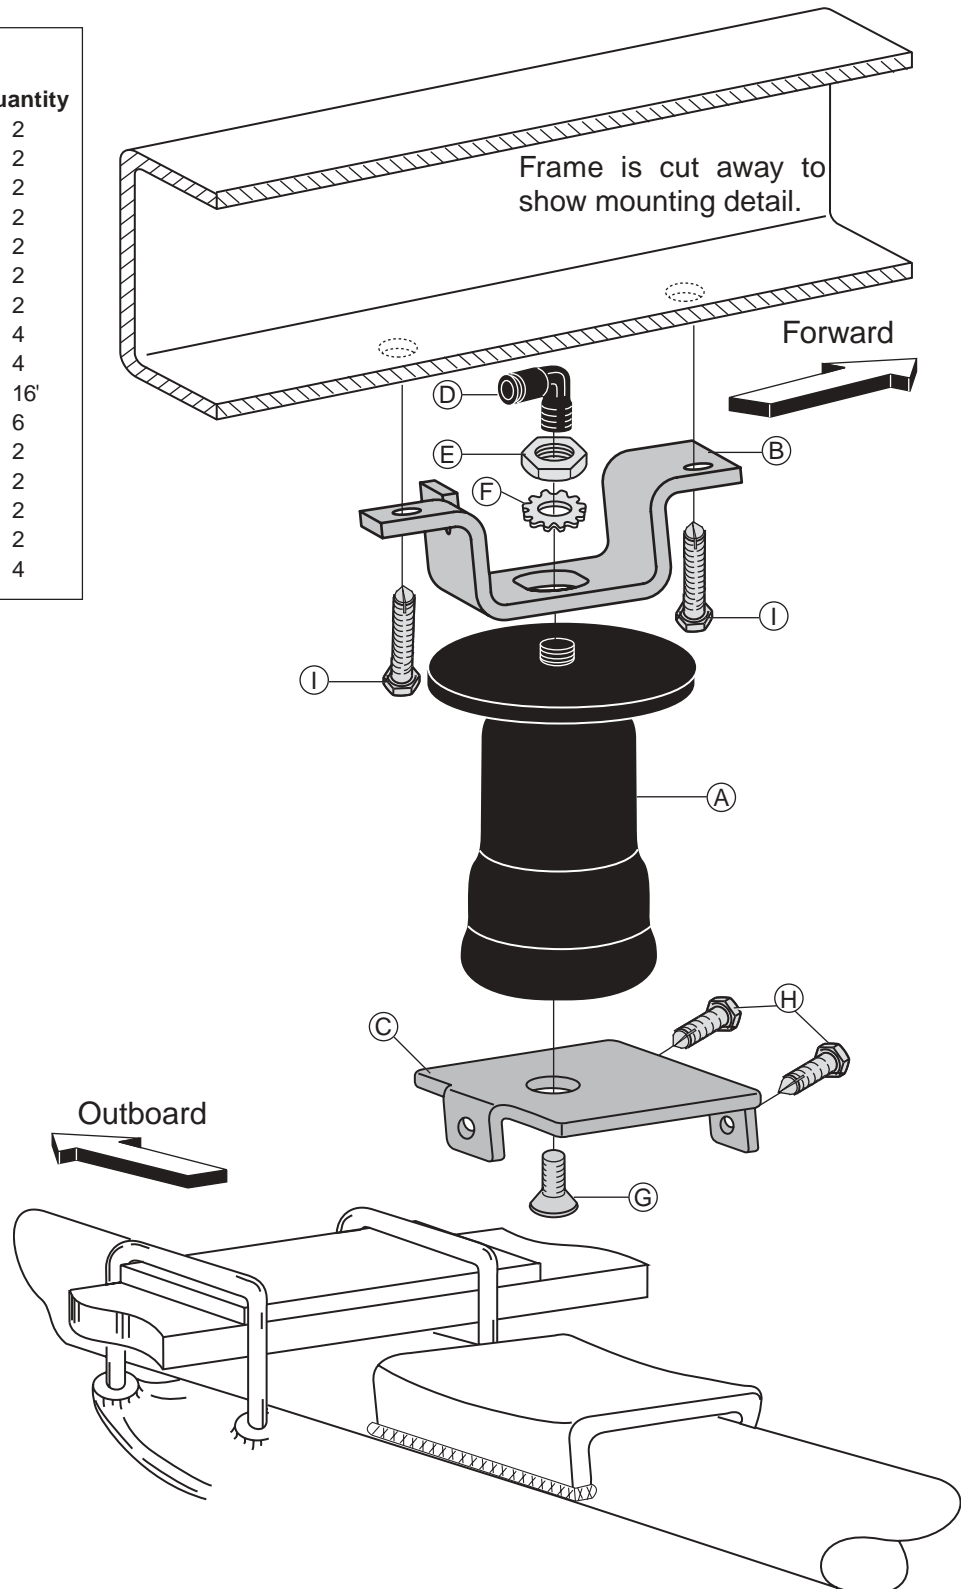

Figure 1
1. Install the elbow fitting (D) to the top of the air spring (A) finger tight plus 1 1/2 turns. Be careful to only tighten on the metal hex nut only (Figure 1).
2. Set the upper bracket (B) over the elbow fitting on the air spring and onto the threaded post.
3. Install 3/4" star washer (F) and nylon nut (E) onto the threaded post (Figure 1). Tighten finger tight only.
4. Attach the lower bracket (C) to the assembly using the flat head screw (G). Refer to Figure 1. Tighten to 15 ft-lbs.
NOTE: The two tabs on the lower bracket and the wide leg on the upper bracket should face forward as shown in Figure 1.
NOTE: The upper brackets are driver-side and passenger-side specific. The narrow leg on the upper bracket points rearward (Figure 1).